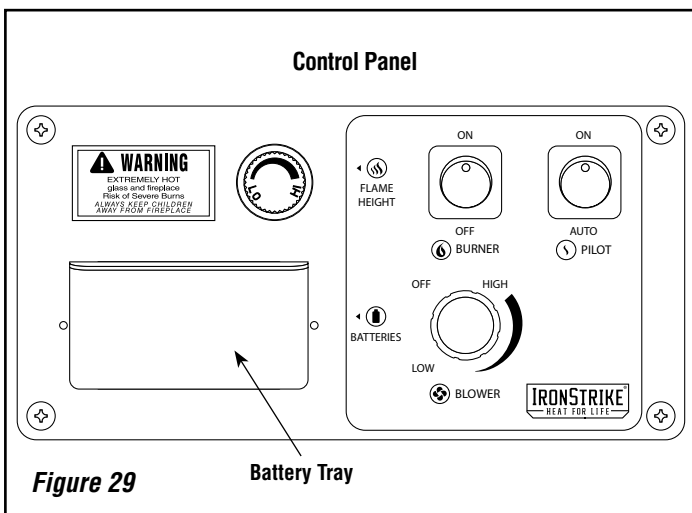

Figure 29
This appliance is equipped with a battery backup system. It requires four (4) "AA" batteries, to power the appliance (without the blower) during a power outage. Install the batteries into the battery holder attached to the removable battery tray (**Figure 29**).